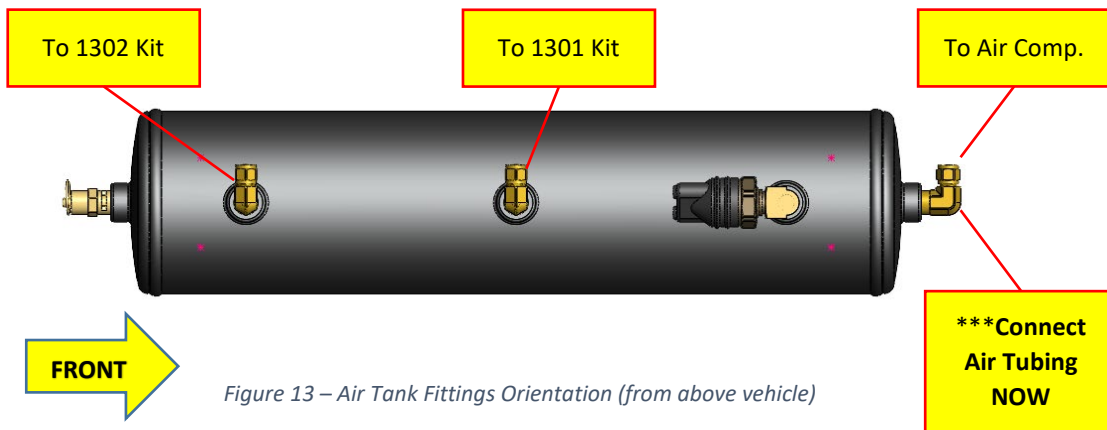

Figure 13 – Air Tank Fittings Orientation (from above vehicle)
- 8.10.1. Route 1/4" Air Tubing, which is connected to front of Air Tank from bench assembly step (Figure 13) across back of firewall, or above chassis, as desired. There should be at least 12 inches of excess tubing sticking out of Driver's side to manipulate and connect to Air Compressor. Once route is selected, secure Air Tubing in place.
- 8.11.2. Route and attach the included air tubing to both kits. Refer to Figure 13 for connections.